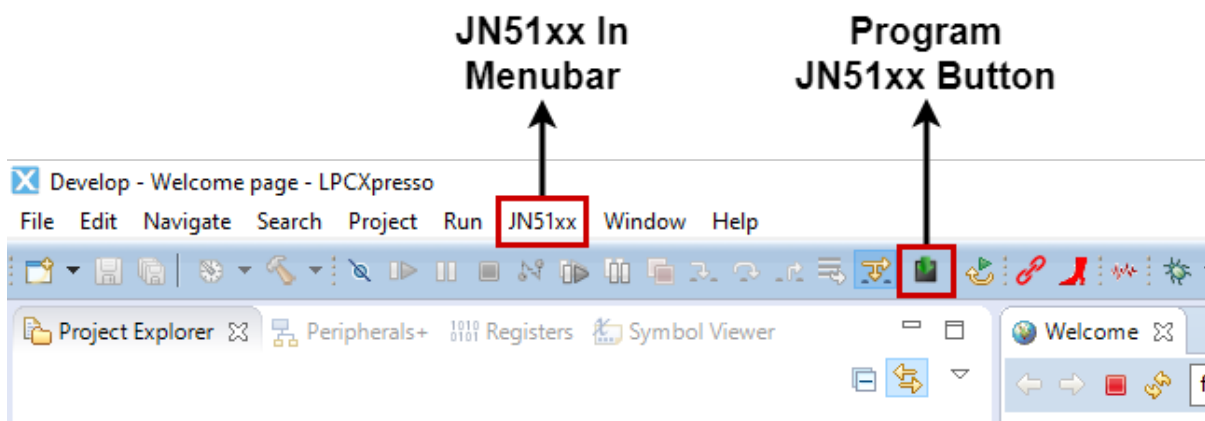

Figure 2-12: IDE Addtions
8. After successful installation of all the SDK components, re-run the LPCXpresso IDE. There should be JN51xx entry in the menu bar and a programming button should be added to the environment. This is shown in the figure 2-12.